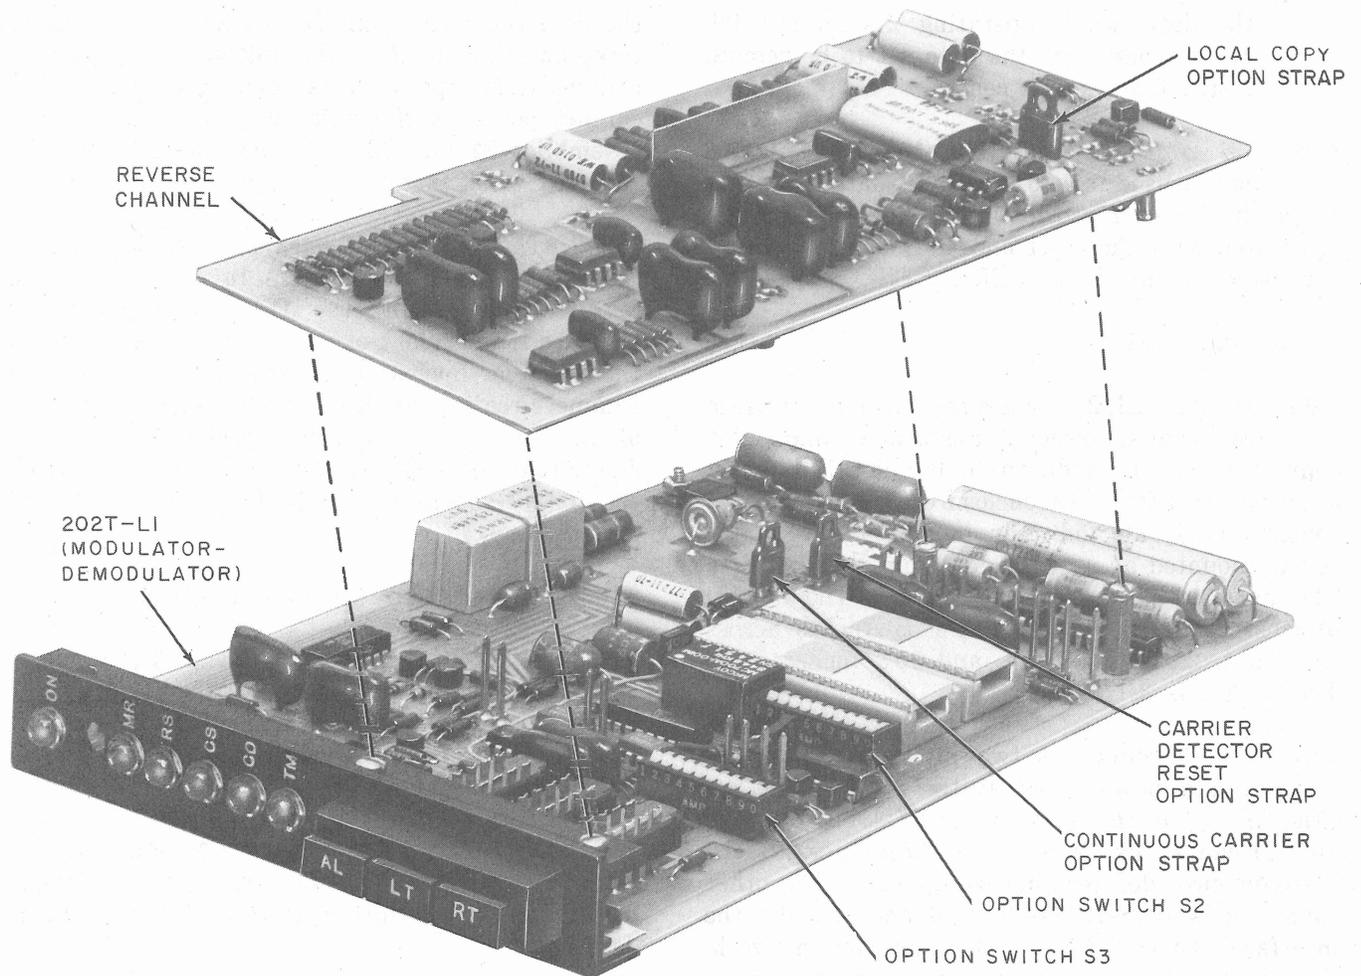

Fig. 2—Data Set 202T-L1/3
**2.02** Data set 202T-L1 is contained on a printed circuit wiring board (Fig. 2). There are three test switches and six status indicator lamps on the faceplate of the printed circuit wiring board.
**2.10** DS 202T-L1/3 (Fig. 2), or 202T-L1/3A provides everything provided by list 1 plus a reverse channel circuit pack (JY1 or JY2). This circuit pack is a printed wiring board measuring 1 inch high, 3.4 inches wide, 7.5 inches long, and weighing 0.5 pounds. It includes the filters, switching circuits, and demodulator circuits needed to perform the reverse channel function. Interconnection to